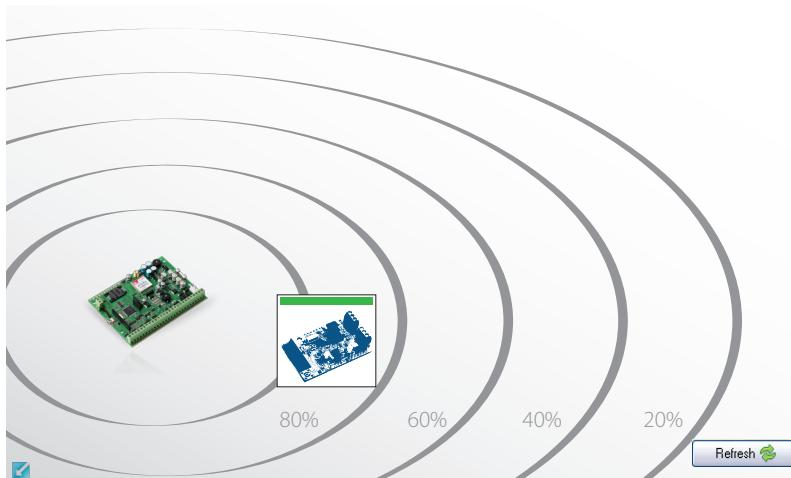

Fig. No. 7
- Bind the device to the alarm system using **ELDES Configuration Tool** software. Open **Wireless Device Management** section and enter a 8-digit wireless device ID located on the EW1B enclosure and press **Add** button (see Fig. No. 7). The device can also be bind by sending a corresponding command via SMS message. For more details, please, refer to the software's HELP section and ELDES alarm system installation manual.